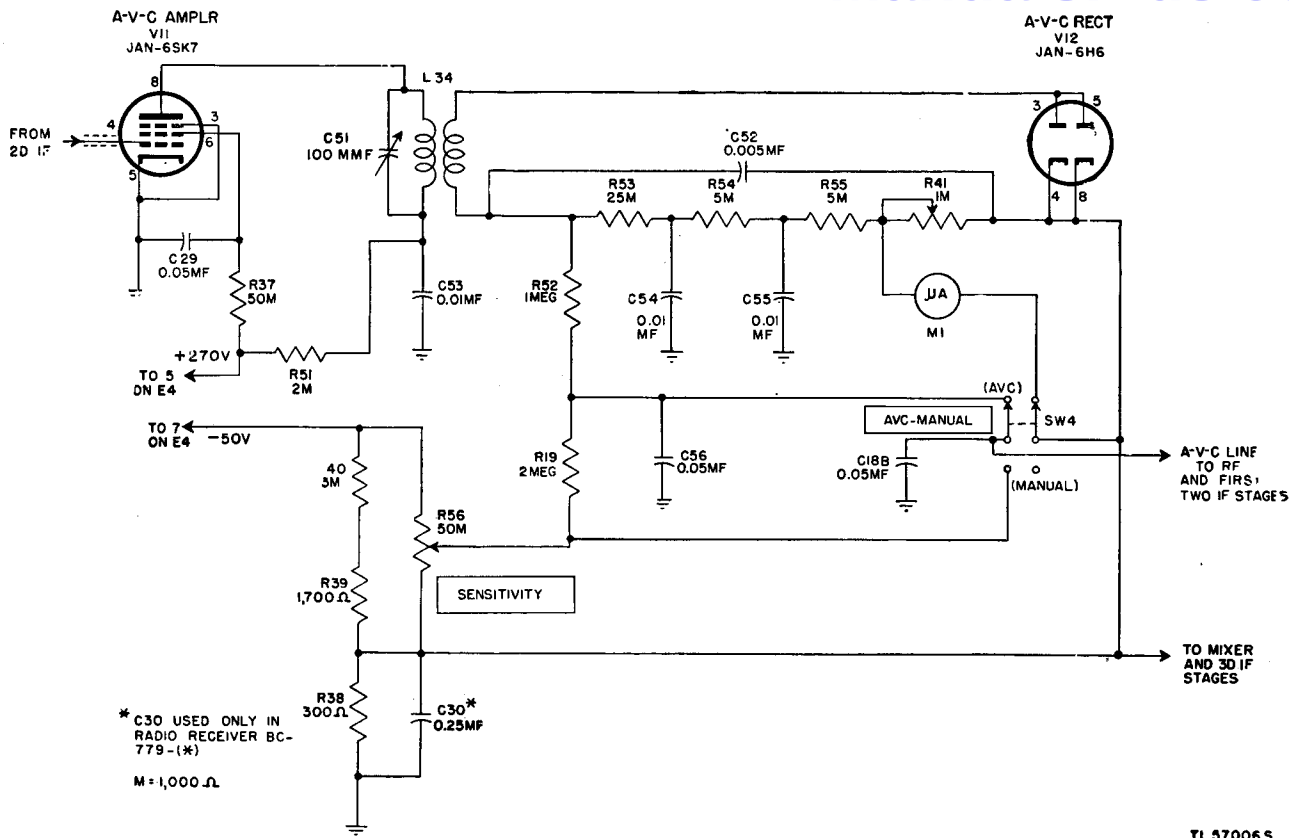

Figure 31. Radio Receiver BC-779-B, functional diagram of a-v-c stages.
a. *MIXER TUBE JAN-6L7.* For simplicity, capacitor C71, main tuning ganged capacitor C1C, and band spread ganged capacitor C2C are represented as a single variable capacitor C across the inductance trimmed secondary of r-f transformer L18. Signal voltages across C are applied through 600-mmF capacitor C11 to signal grid G1 (top cap) of pentagrid mixer Tube JAN-6L7. Fixed bias from the voltage divider (fig. 31) is applied through a filter circuit (10,000-ohm resistor R10 and 0.01-mf capacitor C12) and 500,000-ohm grid resistor R9 to the signal grid. Screen grid G2 and G4 (pin 4) forms a screen about injection grid G3 (pin 5), and the h-f oscillator output is coupled through 95-mmF capacitor C13 to the injection grid. Since the screen grid shields the signal and injection grids from one another, the tube electron stream is modulated independently by the r-f and oscillator signals. Heterodyne action produces sum and difference frequencies in the mixer output. The primary of transformer T1 is tuned by C21 to the 465-kc *difference* frequency to which the i-f amplifier is also tuned. The i-f voltage across the secondary winding of transformer T1 is applied to the crystal filter.
65. A-V-C Circuit (fig. 31)
and to the control grid (pin 4) of the a-v-c amplifier stage V11 (fig. 31). V7 and V11 have a common grid circuit, including fixed bias. The suppressor and cathode of V11 are grounded; screen voltage is applied to pin 6 through 50,000-ohm series-dropping resistor R37; and the screen is bypassed by 0.05-mf capacitor C29. Plate (pin 8) voltage is applied through 2,000-ohm filter resistor R51 and the primary of transformer L34. The primary of L34 is tuned to 465 kc by 100-mmfd capacitor C51, and capacitor C53 (0.01-mf) bypasses high frequencies to ground. The transformer secondary is untuned.